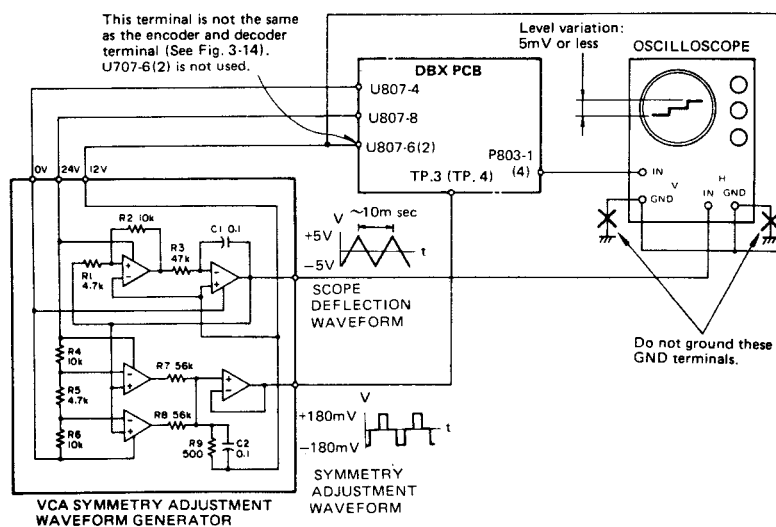

Fig. 3-12 VCA symmetry adjustment setup (encoder)
| 6. VCA symmetry | 8 | Change test setup to as Fig. 3-12, then adjust. Shortcircuit between P801-1(5) and P801-2. | R885/R886 | P803-1(4): A relatively straight horizontal line on the 'scope face'. (Level variation: 5mV or less) | |